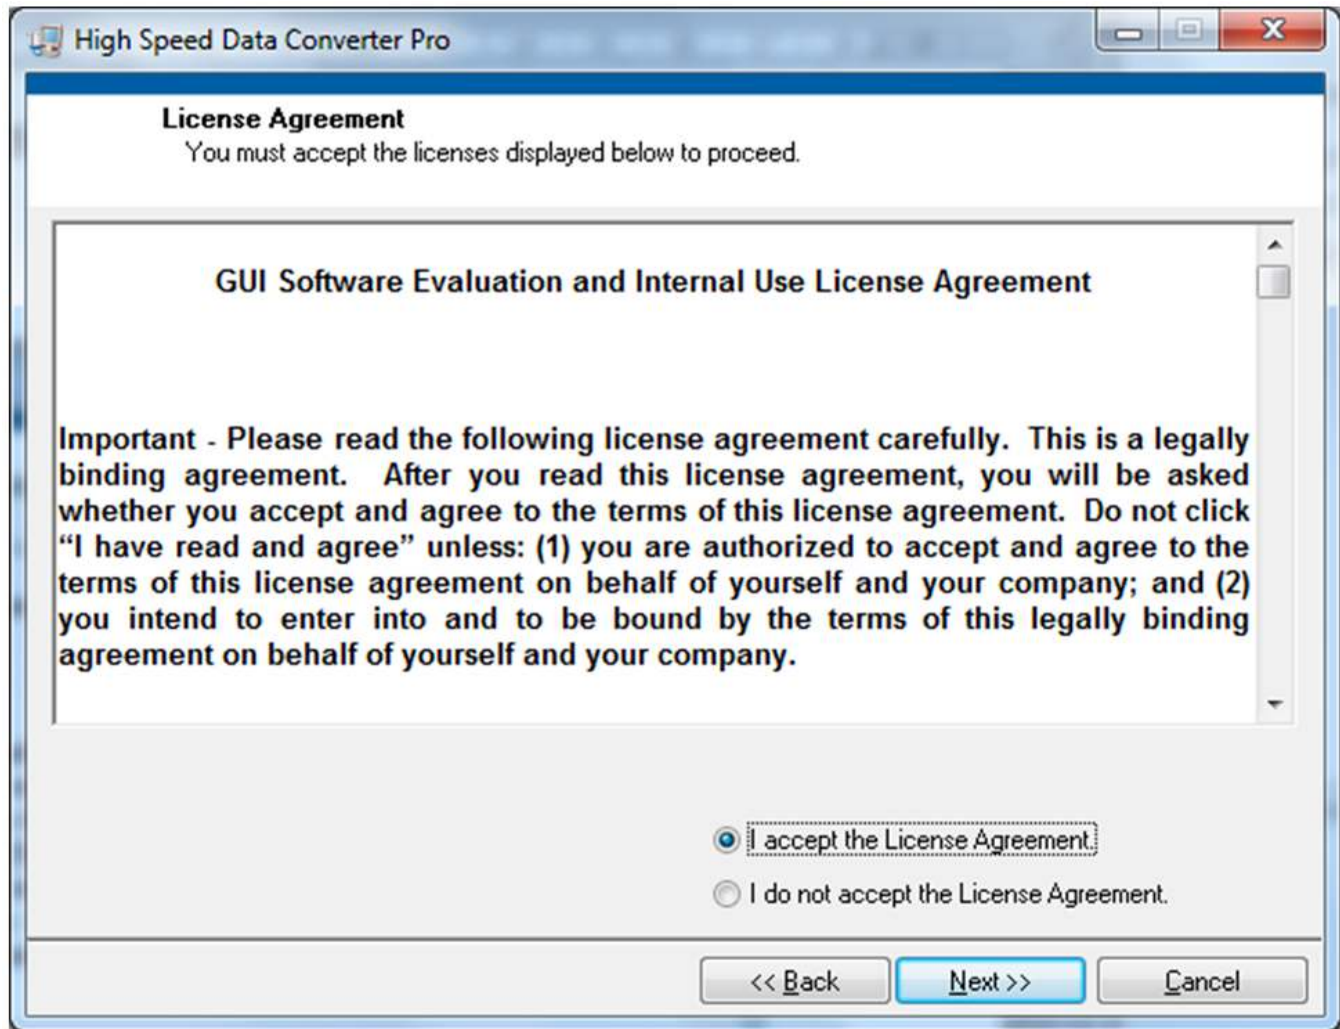

Figure 23. HSDCPro Install (TI License Agreement)
- Read the License Agreement from Texas Instruments and select *I accept the License Agreement* and press the *Next* button as shown in Figure 23.